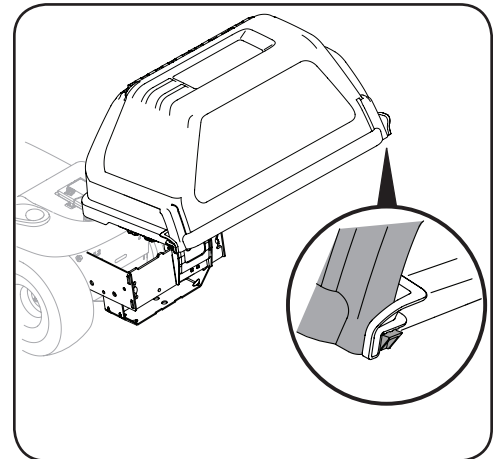

Figure 4-13
**NOTE:** The pin clips into place and is secured by a tab on each side of the bagger cover. Swing the upper grass catcher cover down to close the attachment, pushing in on the rear right-side and rear left-side tabs and lock them into place under the notches on each side. Ensure a secure, snug fit. See Figure 4-13.